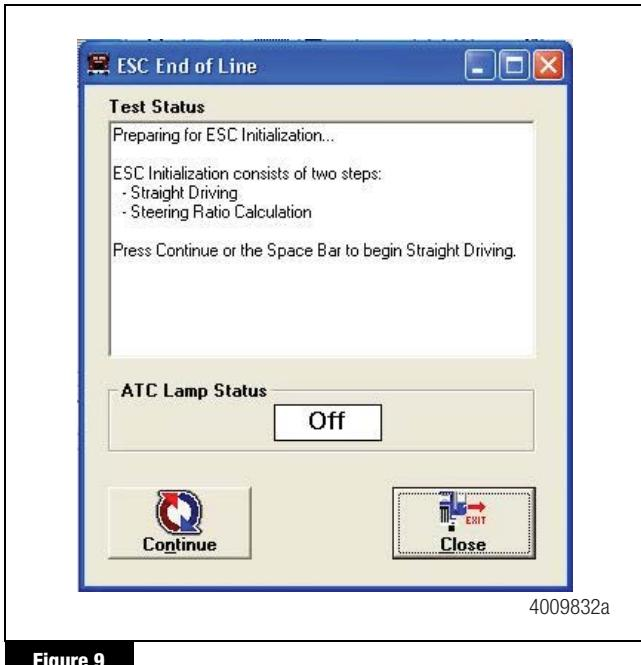

Figure 9
4. Check the message box. Figure 9.